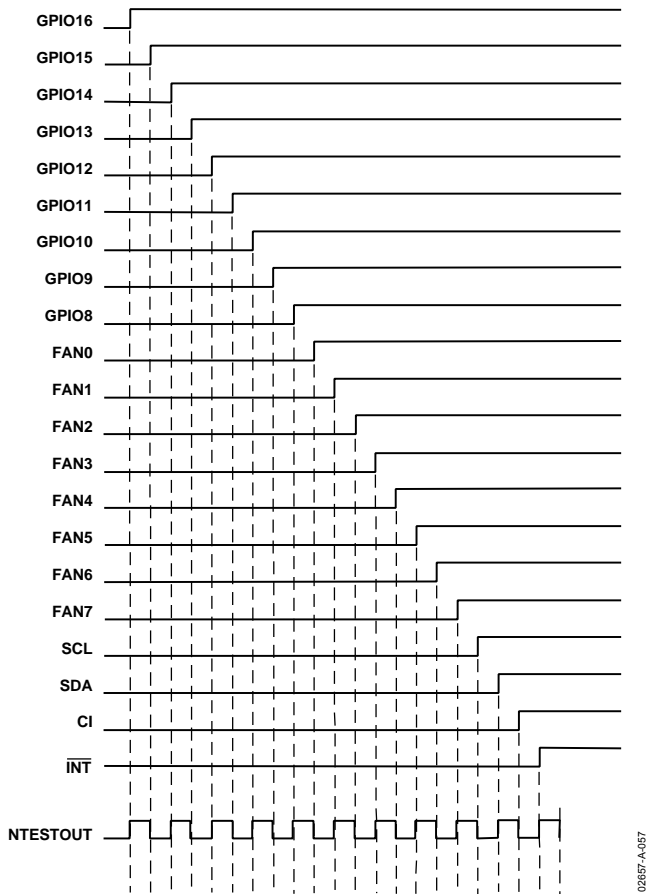

Figure 57. NAND Tree Test Taking Inputs High in Turn
1. Start with all inputs low and take them high in turn, starting with the input nearest to NTEST_OUT (GPIO16/ $\overline{\text{THERM}}$) and working back up the tree to the input furthest from NTEST_OUT ($\overline{\text{INT}}$). This should give the characteristic output pattern shown in Figure 57, with NTESTOUT toggling each time an input is taken high.